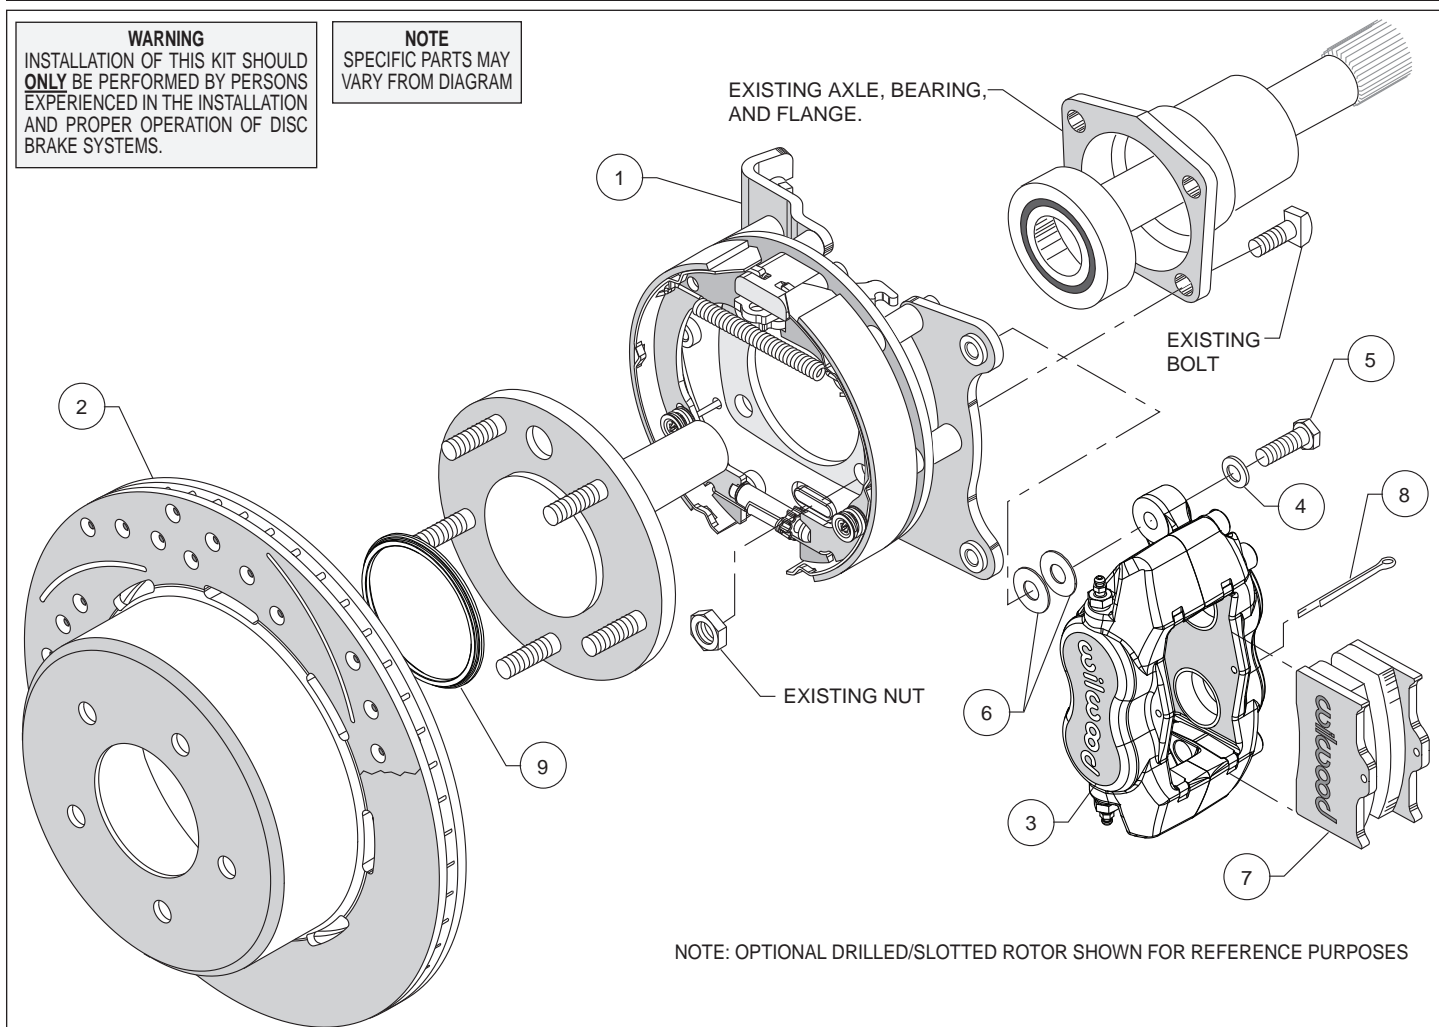
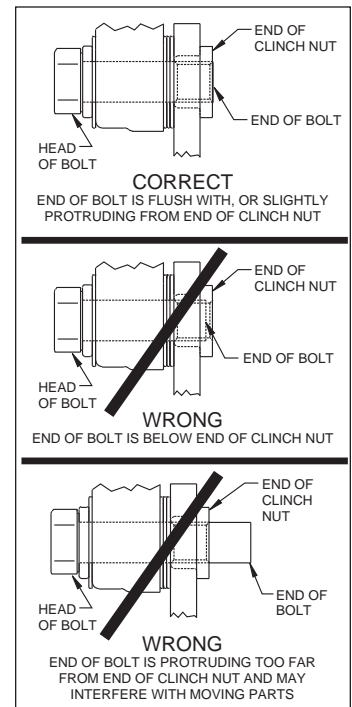

Figure 1. Typical Installation Configuration
Figure 4. Clinch Nut Engagement Diagram
Assembly Instructions (numbers in parenthesis refer to the parts list, and Figure 1 on the preceding pages): **CAUTION:** All mounting bolts must fully engage clinch nuts. Be sure to check that all bolts are either flush or protruding through flanged side of clinch nut after shimming, Figure 4.
- Orient the bracket assembly (1), as shown in Figure 1, and mount to the axle housing flange using the Original Equipment Manufacturer (OEM) bolts and nuts, Figure 1. Ensure that the bracket assembly backing plate fits flush against the axle housing flange. Apply red *Loctite*® 271 to the OEM bolt threads and torque to OEM specifications.
- Slide the rotor registration adapter (9) onto the axle register on the axle flange with the smaller O.D. facing toward the rotor/hat (2), Photo 1. Align the correct hole pattern in the rotor/hat with the stud pattern on the axle flange and slide into place, Figure 1 and Photo 2. **NOTE:** The rotor/hat must fit flush against the axle flange or excessive rotor run out may result. Install three lug nuts (finger tight) to keep the rotor/hat assembly in place while continuing with the installation. **NOTE:** Some OEM and after market axles come with stud sizes larger than 0.50" diameter. Verify stud size and have a qualified machine shop drill the bolt circle of the hat/rotor to the correct stud size, if necessary.
•**NOTE:** Please reference the caution statement at the beginning of the assembly instructions. Mount the caliper (3) onto the caliper mounting bracket (1) using bolts (5) and washers (4), as shown in Figure 1. Initially place two .035" thick shims (6) on each bolt between the caliper and the bracket, Photo 3. Temporarily tighten the mounting bolts and view the rotor (2) through the top opening of the caliper. The rotor should be centered in the caliper, Photo 4. If not, adjust by adding or subtracting shims between the bracket and the caliper. Always use the same amount of shims on each of the two mounting bolts. **NOTE:** The end of each bolt must be flush with or slightly protruding from the head of the clinch nut, as shown in Figure 4. If necessary place spare shims between washer (4) and caliper mounting ear to achieve the proper clinch nut engagement. Once the caliper alignment and clinch nut engagement are correct, remove the bolts one at a time, apply red *Loctite*® 271 to bolt threads, and torque to 40 ft-lb.